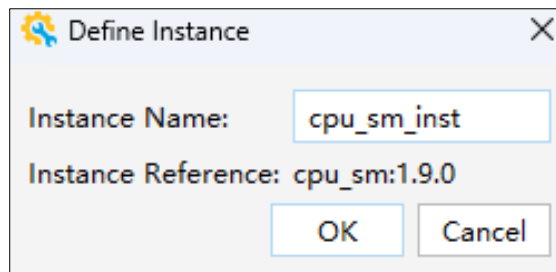

Figure 3.4. Specifying Instance Name
5. Confirm or modify the module instance name. Click **OK** (Figure 3.4).